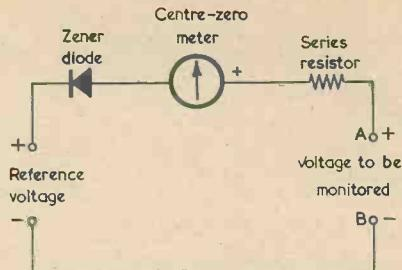
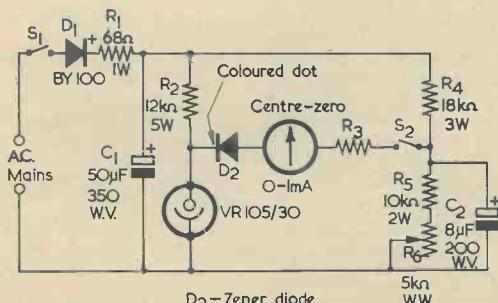
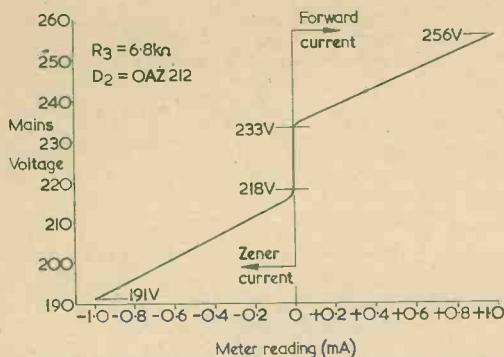

Fig. 2. A zener diode meter circuit which provides both an expanded scale and a compressed central section
Fig. 3. Employing the basic circuit of Fig. 2 to monitor a.c. mains voltages
Fig. 4. The results given by the circuit of Fig. 3 when an OAZ212 is used, and R_3 has a value of $6.8\text{k}\Omega$
The basic manner in which a zener diode may be employed to provide an expanded meter scale with a compressed central section is illustrated by the circuit of Fig. 2. In this diagram a zener diode is connected in series with a centre-zero milliammeter and a resistor, the latter two components constituting a voltmeter. Also provided is a fixed reference voltage, which could be given by a neon tube or similar device. The
When the reverse voltage across a zener diode exceeds a certain figure the diode passes a reverse, or zener, current. This effect is analogous to reverse voltage breakdown with a normal semiconductor diode. The zener diode is, however, especially designed to pass a continuous zener current, and it offers the advantage that the reverse voltage which appears across it remains substantially constant for all zener currents within its safe operating range. In consequence, the zener diode can be employed as a voltage stabiliser or as a voltage reference device. Apart from this property, the zener diode is just the same as any other semiconductor diode. If a forward voltage (i.e. in the conducting direction) is applied to it, forward current flows. Advantage is taken of this fact in Fig. 2.
Let us assume that the positive potential at terminal A of Fig. 2 is higher than that offered by the reference voltage. Conventional current (from positive to negative) then flows from terminal A to the positive terminal of the reference voltage. This current is in the forward direction for the zener diode which, acting in the same way as any other semiconductor diode, then conducts. Under this condition the zener diode can be considered as presenting what is very nearly a short-circuit, whereupon the meter gives an indication of the voltage difference existing between the voltage applied to terminals A and B, and the reference voltage.
The actual meter calibration obtained with the circuit of Fig. 2 depends upon the sensitivity of the meter, the value of the series resistor and the zener voltage of the diode. If the set-up is to be used to monitor direct voltages, these components can be chosen accordingly. It may also be necessary to step down the voltage to be monitored by means of a fixed potentiometer in order to bring the compressed central section of the meter scale within the limitations offered by a practical zener diode. The experimenter who understands the principle of operation of the circuit of Fig. 2 will be quite capable of working out the required external circuitry needed under such conditions.
To carry out a practical check on the zener diode circuit, the writer made up the prototype shown in Fig. 3. The function of this prototype was to monitor a.c. mains voltages above and below an arbitrary central range. In Fig. 3 the a.c. mains voltage is applied to the rectifier circuit given by D₁, the limiter resistor R₁, and reservoir capacitor C₁, whereupon a rectified voltage proportional to the mains voltage appears across C₁. A reference voltage is provided by the VR105/30 regulator tube, this stabilising at approximately 105 volts. A fraction
of the rectified voltage appears at the junction of R_4 and R_5 and is applied to a series combination of a resistor (R_3), a meter and a zener diode in the same manner as occurred at terminal A in Fig. 2. In the prototype, the variable resistor, R_6 , was set up so that, at an a.c. voltage approximately midway between 210 and 250, the voltage at the junction of R_4 and R_5 was equal to the reference voltage appearing across the VR105/30.*
The voltage appearing at the junction of R_4 and R_5 is proportional to the a.c. mains voltage. Since the VR105/30 stabilises at about 105 volts, the voltage at the junction of R_4 and R_5 is approximately $\frac{105}{230}$ of the applied a.c. voltage. The curves given in Figs. 4, 5 and 6 were taken against mains voltages, and the corresponding direct voltages at the junction of R_4 and R_5 will be approximately $\frac{105}{230}$ (nearly $\frac{1}{2}$) of the a.c. voltages indicated.
The first curve taken is shown in Fig. 4. An OAZ212, which has a zener voltage of $9.1 \pm 15\%$ at 1mA , was employed in the D_2 position, and R_3 was given a value of $6.8\text{k}\Omega$. As is shown by the curve, the compressed central section appeared between 233 and 218 volts. The difference between the onset of forward and zener current is, therefore, 15 volts. Scaling down by a factor of $\frac{1}{2}$ (to obtain the corresponding voltages at the junction of R_4 and R_5) this corresponds to some 7.5 volts, which is what would be expected from an OAZ212.
*As the curves of Figs. 4, 5 and 6 show, the actual a.c. voltage was about 233 volts. However, the purpose of the experiment was to prove the results which could be given by the zener diode circuit of Fig. 2, and it was only necessary to have an arbitrary setting in R_6 to achieve this end.
It will be noted that, in Figs. 4, 5 and 6, the parts of the curves which correspond to forward current and zener current are shown as being linear, with a small amount of curvature near the zero current section only. So far as could be judged, within experimental error, this high degree of linearity was achieved with the prototype circuit, although the published forward and zener characteristics for the zener diodes employed would lead one to expect more pronounced curvature, particularly near the zero current points. Between the points at which forward current and zener current commence, the curve is quite definitely a straight vertical line, since the meter simply indicates zero over the corresponding range of voltages!
The circuit of Fig. 3 represents one application of the principle illustrated by Fig. 2, and it can be employed in practice to monitor mains voltages above and below any arbitrary preferred range. This being so, there are several points which need to be discussed.
The circuit of Fig. 3 employs a reservoir capacitor, whereas it is normal in measuring instruments to use full-wave rectifying circuits without a reservoir component. However, the zener diode cannot function correctly in the presence of the heavy ripple following an unsmoothed full-wave rectifier, and some form of smoothing is essential. If the circuit of Fig. 3 is adopted, accuracy should be maintained quite well with time if the reservoir capacitor has a value
considerably higher than that needed to cause the peak voltage to appear after the rectifier. There is, then, a reserve in hand before loss of reservoir capacitance causes the device to read low. The time constant of C_1 and the associated components of Fig. 3 is of the order of 0.5 seconds, which seems to be reasonable in this respect.